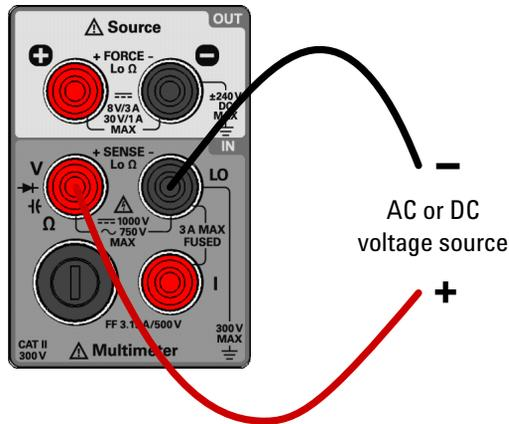

Figure 2-1 Terminal connections for voltage measurements
- 2 Connect the red and black test leads to input terminals **V** (red) and **LO** (black) respectively as shown in Figure 2-1.